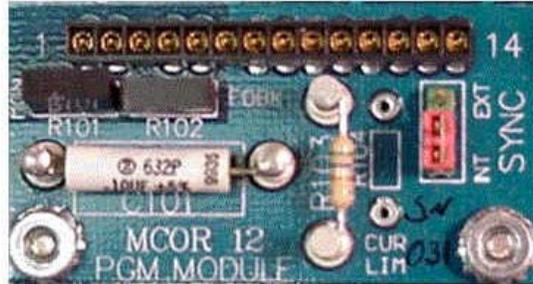

Figure 1.4. MCOR PGM Card.
1.4 Programming (PGM) Card. In most installations the corrector magnet impedances and frequency characteristics will vary over a wide range. Each corrector installation will have its own unique cable plant resistance and maximum current rating, as well. All of these factors affect the stability and response time of the corrector. To provide a ‘custom-tailored’ response to each corrector magnet yet retain modularity in the driver design, each MCOR power module accommodates a small, removable programming (PGM) card, shown in **Figure 1.4**.